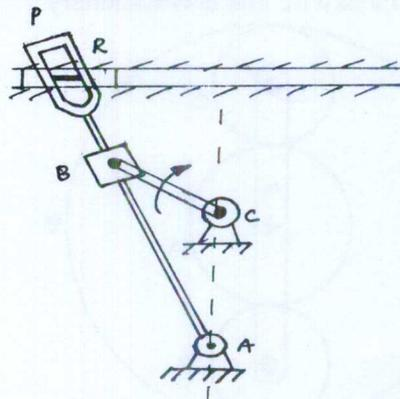

Fig.Q2(b)
- Fig.Q2(b) shows the layout of a quick return mechanism of the oscillating link type, for a special purpose machine. The driving crank BC is 30 mm long and time ratio of the working stroke to the return stroke is to be 1.7. If the length of the working stroke of R is 120 mm, determine the dimensions of AC and AP.